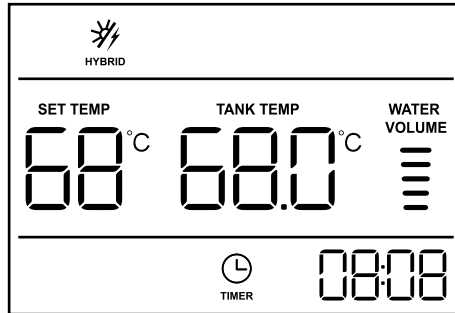

Figure 2.6 Main interface with timer
- After finishing all these steps, the display will show up like Figure 2.6. And the timer icon will be displayed all the time.